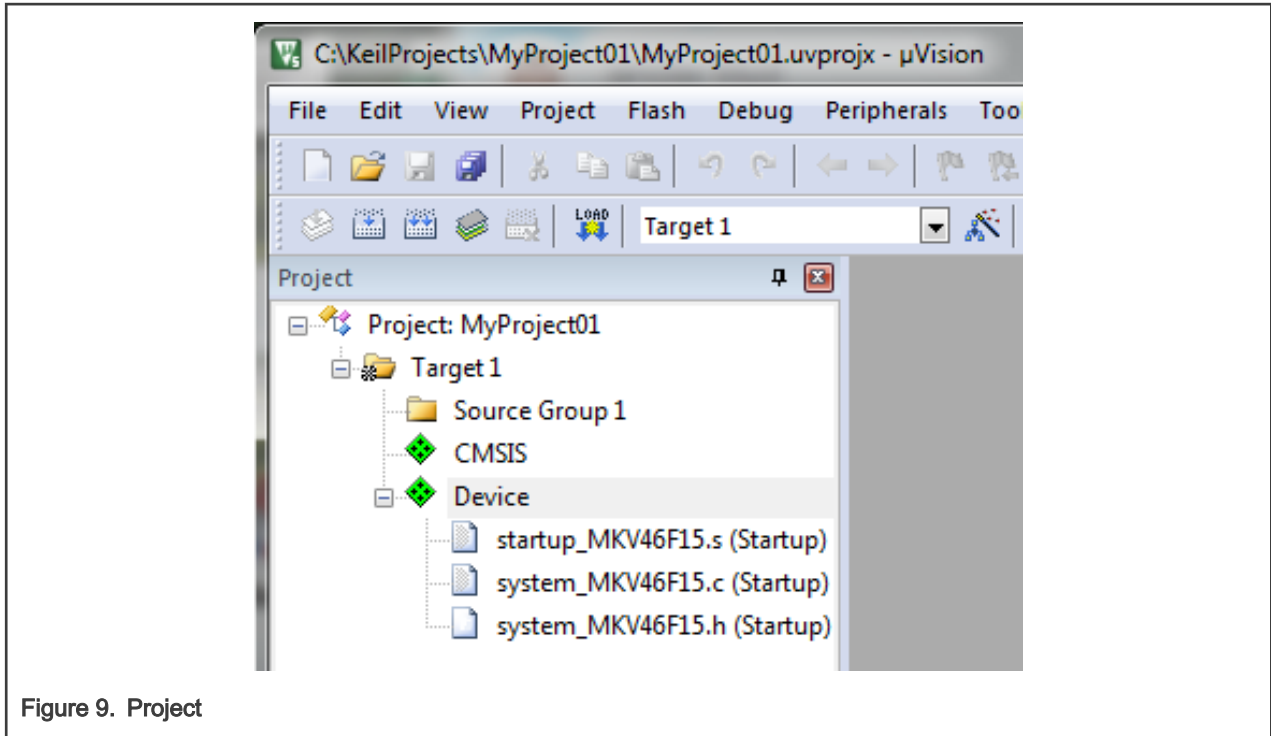

Figure 9. Project
10. Click OK, and a new project is created. The new project is now visible in the left-hand part of Keil µVision. See Figure 9.
13. Select Not Used in the Floating Point Hardware option. See Figure 9.